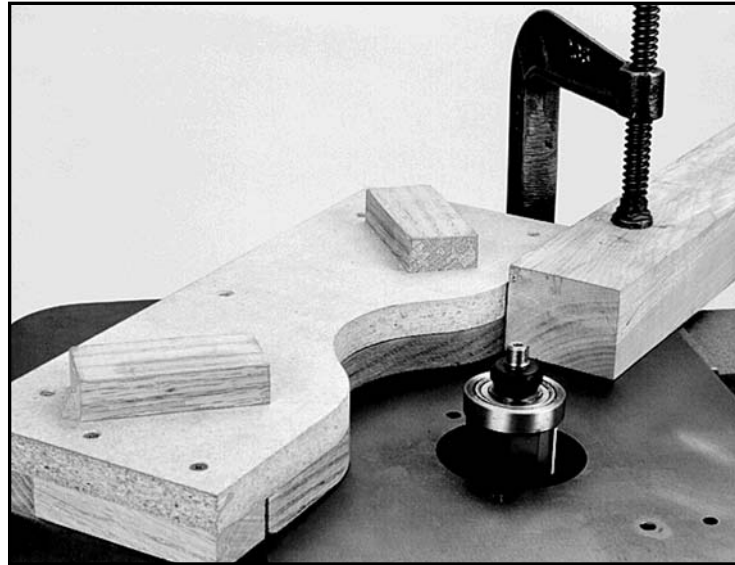

Figure 24
7. Use some type of hold-down fixture and guard when doing freehand work. See Figure 24.
Notice in Figure 24, the operator is not exposed to the cutting edge of the cutter. Cutters are removing material from the bottom of the workpiece.
Sometimes the starting pin will not be in the most advantageous position. Using a board firmly clamped to the shaper table, as shown in Figure 24, will give you the same support as the starting pin, with a better starting position. Always use a starting support when doing freehand work.